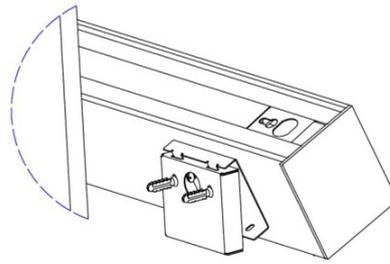

Fig. 7.5
5. Hang the luminaire on the wall mount bracket. (Fig. 7.5)